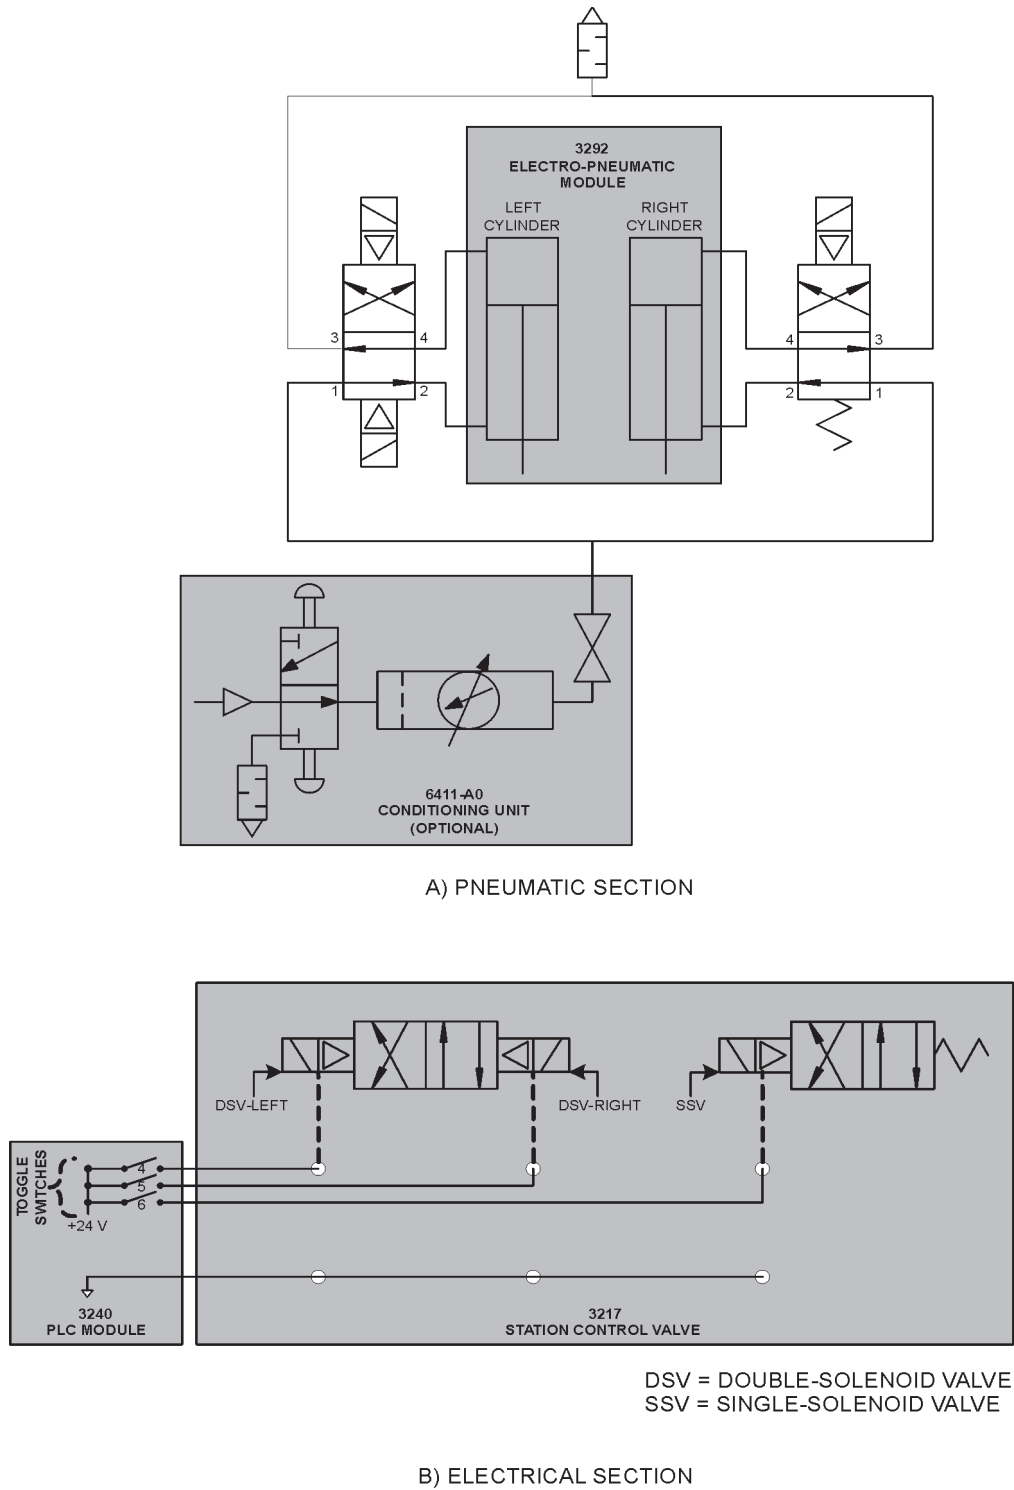

Figure 7. Electro-Pneumatic module test circuit.
7. Put back the safety shield on the Electro-Pneumatic module. Connect the pneumatic tubing on the Station Control Valve and the Electro-Pneumatic module as shown in Figure 7. Refer to Table 1 for the Station Control Valve electrical connections.